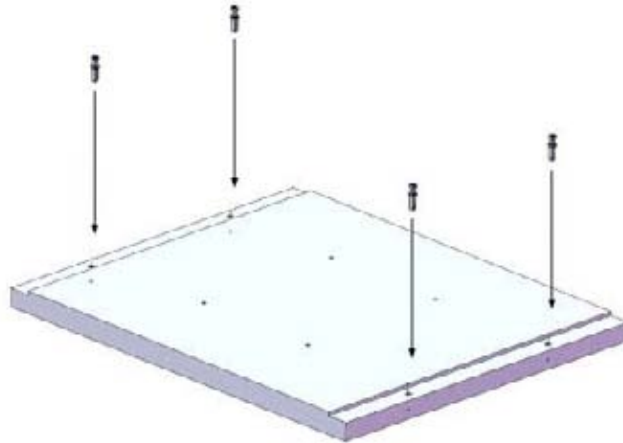

Figure 1
2. Locate the four connector stud holes on the top and emblem panels and insert the connector studs (**Figure 1**).